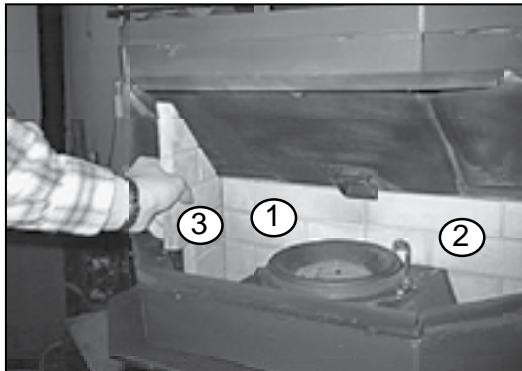

Figure 24.2
2. Place left side brick along left side of firebox, making sure chamfered (beveled) back edge fits snugly next to left rear brick. **Figure 24.2.** Repeat with right side brick.